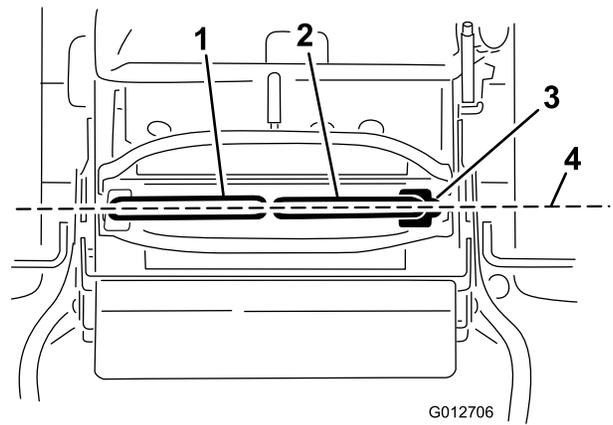

Figure 70
Important: Ensure the tracking of the mower is correct after adjusting the motion control levers. Adjusting the tracking and aligning the motion control levers front to back is the same procedure (Figure 70).
1. After the horizontal alignment is finished, check the front to back alignment by slightly pushing the control levers forward to take up any slack in the linkage for the control levers (Figure 70).